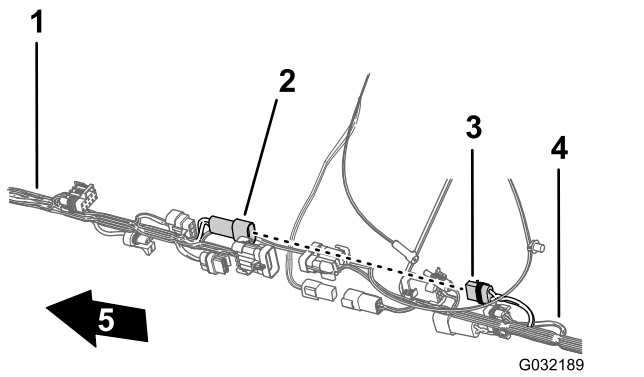

Figure 118
5. Connect the 2-pin connector of the front harness for the hose-reel power into the 2-socket connector of the rear harness for the hose reel power (Figure 118).